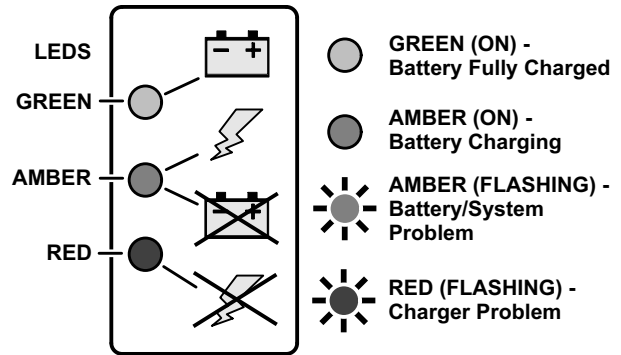

Figure 3-3. Charger Decal LED Indicators
3. When powered up the charger will go through a short LED indicator self-test. The battery charger LED indicators on the charger (*Figure 3-3.*), will flash in sequence for two seconds. These LED indicators can be viewed
If a fault has occurred during battery charging, the (AMBER or RED) LED on the charger LED indicator (*See Figure 3-3.*) will flash corresponding to the fault which occurred. Refer to Table 3-1 following for the charger LED flash codes and their meaning.